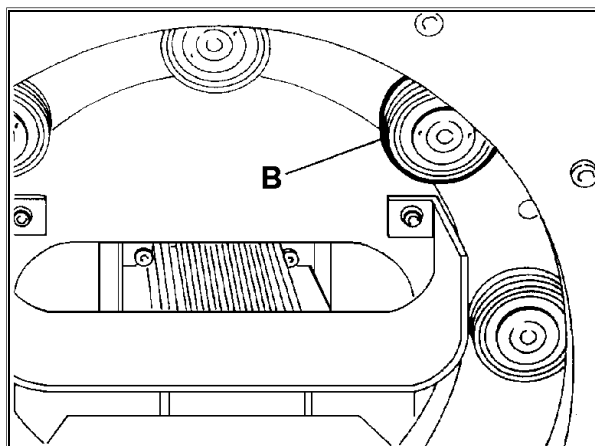

fig.7.7
- c.2) **DELTA 90-90PLUS only** . Grease the tilting wheels (B), see fig. 7.7.